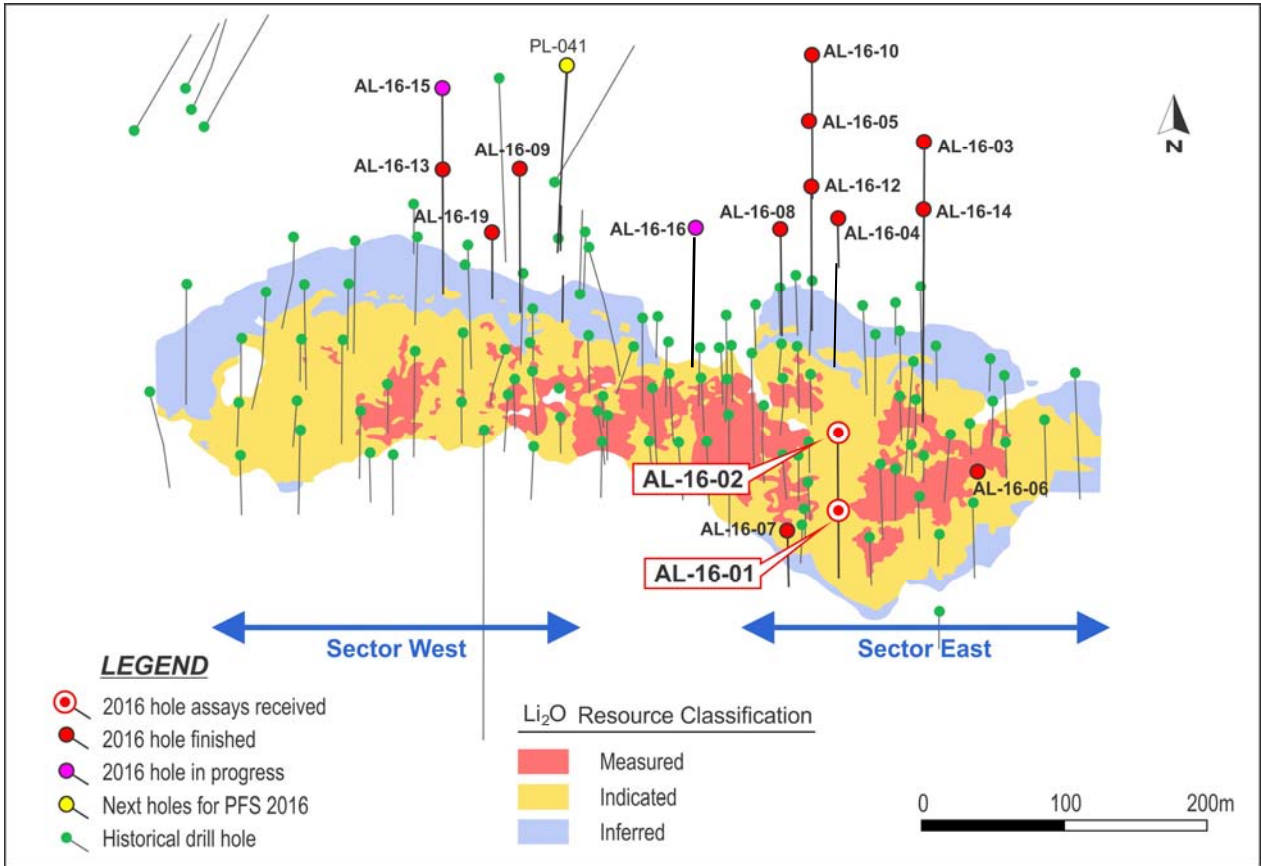

Figure 1: Drill hole collar location plan
- Hole AL-16-001, intercepted 62 metres at 1.35 % Li₂O from a downhole depth of 12 metres including 16 metres at 1.65 % Li₂O from a downhole depth of 27 metres (see Figure 1); and
- Hole AL-16-002, 60 metres step-back of hole AL-16-001, intercepted 49 metres at 1.18 % Li₂O from a downhole depth of 50 metres (vertical depth of 30 metres) including, 17 metres at 1.49 % Li₂O from a downhole depth of 81 metres (see Figure 1).